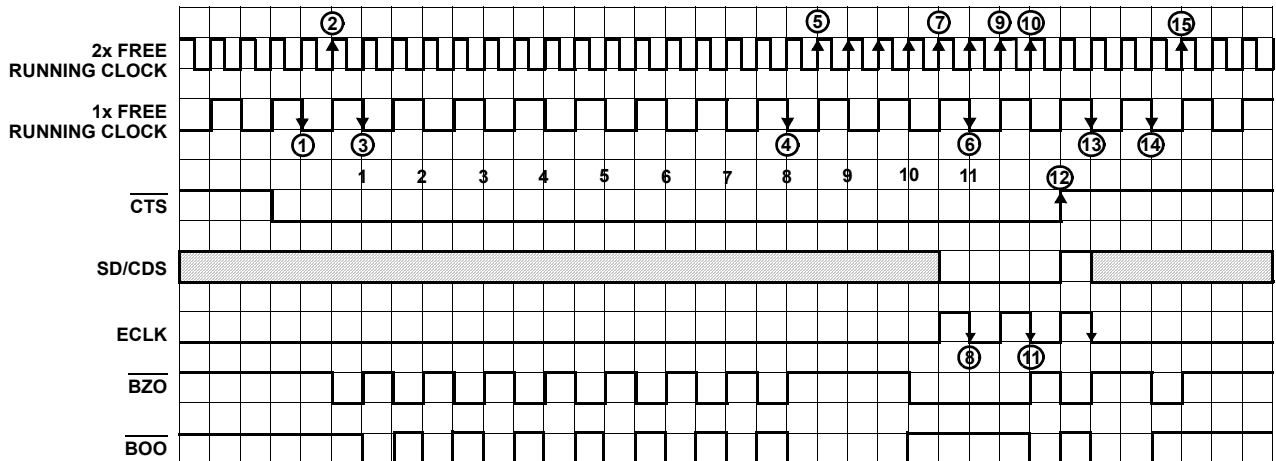

FIGURE 4. ENCODER INPUT TO OUTPUT TIMING DIAGRAM
Figure 4 illustrates the operation of the HD-6409 encoder section. The encoder operates with 1x and 2x free running clock signals taken from the 16x or 32x oscillator clock from the Divide-by-X circuit. The encoder outputs  $\overline{B00}$  and  $\overline{BZ0}$  will both remain high and ECLK will remain low while  $\overline{CTS}$  is not asserted. The encoder cycle begins when the  $\overline{CTS}$  control line is toggled to a '0' state. The next falling edge of the 1x clock ① latches the  $\overline{CTS}$  signal. The next rising edge of the 2x clock ② outputs the following: